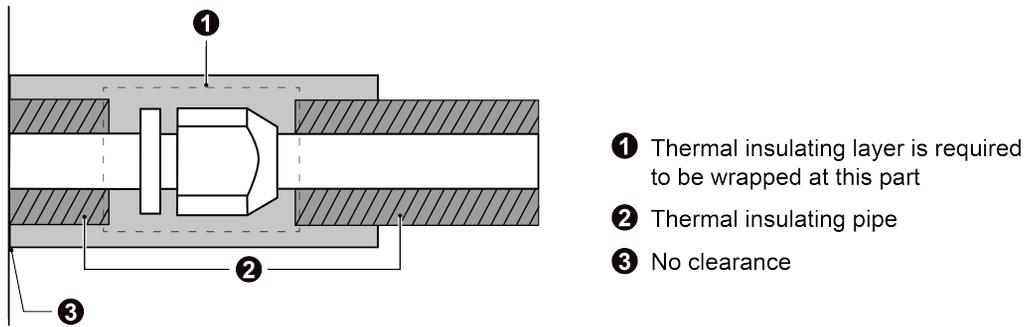

Fig. 4.3.6
2) Joints of indoor and outdoor unit should be wrapped with insulating material and leave no gap between pipe and wall. See Fig. 4.3.6.